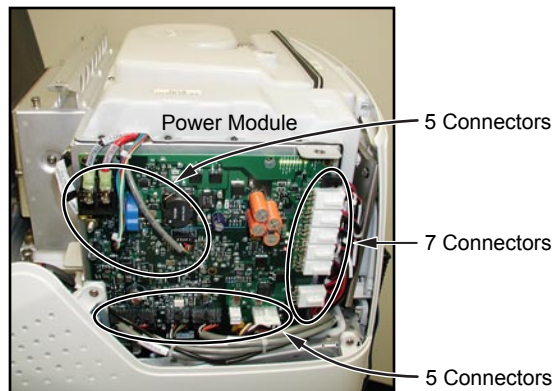

Figure 3-9 Power Module
- 10.2 Disconnect cables from Power Controller PCB (see Figure 3-9).